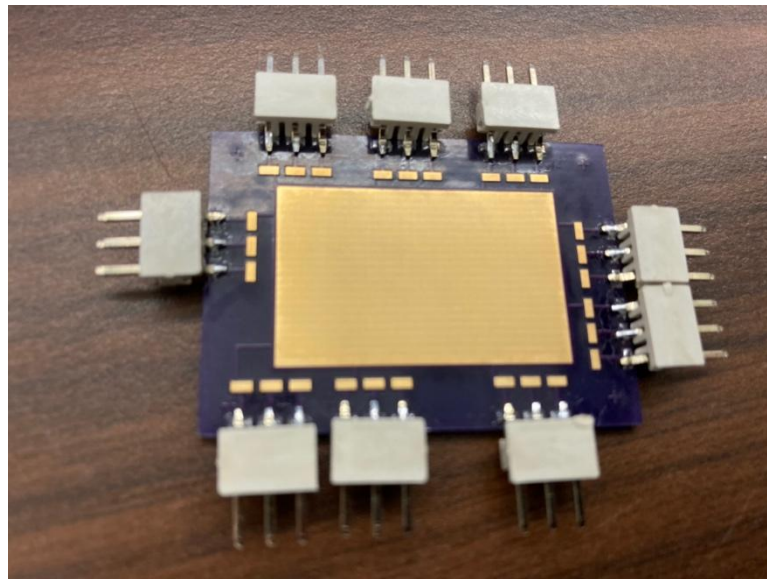

Figure 4 Bare test card before assembly
- 1) **Preparing the test card:** as seen in Figure 4, the test cards come originally with many connectors mounted so that one could in principle read out up to 9 test structures. However, this poses problems for the wirebonding process, unless one wanted to use a deep-access wirebonder, which is a lot more complicated than is warranted for this exercise. If your test card has more than two connectors, you will need to remove them using a soldering iron or a heat gun.